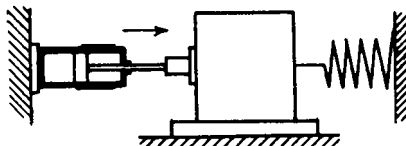

Fig. 5 A spring reduces the thrust at the end of the stroke.
**Fig. 5** A gear pump transports liquid between the tooth spaces and the housing wall. A circular tooth shape has only one tooth making contact, and it is more efficient than an involute shape which might enclose a pocket between two adjoining teeth, recirculating part of the liquid. The pump has helical teeth.